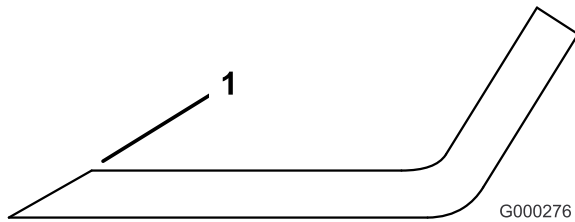

Figure 21
1. Sharpen the cutting edge at both ends of the blade (Figure 21). Maintain the original angle. The blade retains its balance if the same amount of material is removed from both cutting edges.